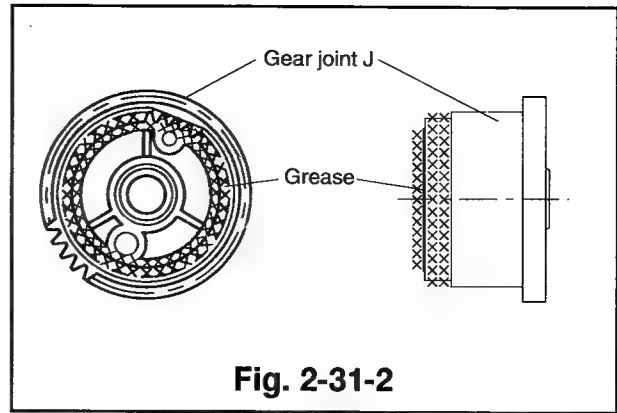

Fig. 2-31-2
- ① Apply grease(PG-641)[859D055O30] to the new gear joint J on the whole circumference of the small cogwheel as shown in Fig. 2-31-2.